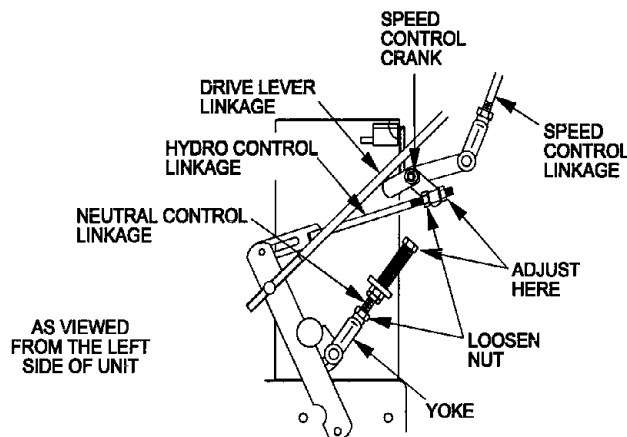

FIG. 15
1. Move the speed control lever (located on the console) to the full forward position and check the orientation of the tabs on the ends of the speed control crank (fig. 15). These tabs should be pointing straight down at the 6 o'clock position or slightly forward. Adjust the threaded yoke at the bottom of the speed control link until the tabs are positioned correctly.
4. Loosen the nut against the neutral control linkage yoke as shown in Figure 15.
2. Loosen the front nut on **left** hydro control linkage as shown in Figure 15. Turn the rear control linkage adjusting nut counter-clockwise until wheel rotates forward. Turn the rear nut of left control linkage clockwise 1/6 of a turn at a time, stopping to move the speed control forward and back to neutral, until left wheel stops rotating forward.